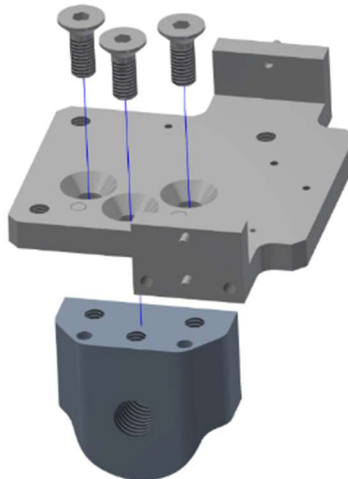
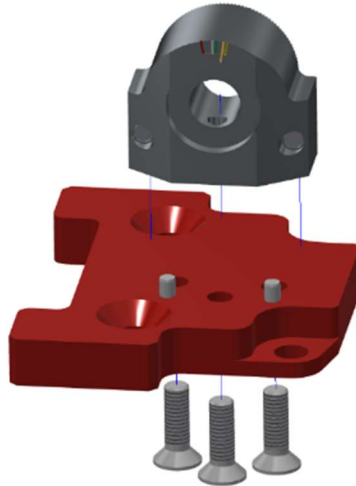

Figure 6-23. Remove the Lumbar Posture Gear Assembly (474-3068-A) from the Spinebox Interface Plate (474-3072) by removing three M6 X 1 X 16 LG. FHCS
Figure 6-24. Remove the Lumbar Posture Gear Assembly (474-3068-A) from the Base Plate (474-3071-A) by removing three M6 X 1 X 20 LG. FHCS
6.2.13 Remove the Lumbar Posture Gear Assembly (474-3068-A) from the Spinebox Interface Plate (474-3072) by removing three M6 X 1 X 16 LG. FHCS (Figure 6-23) and the Base Plate (474-3071-A) by removing three M6 X 1 X 20 LG. FHCS (Figure 6-24).